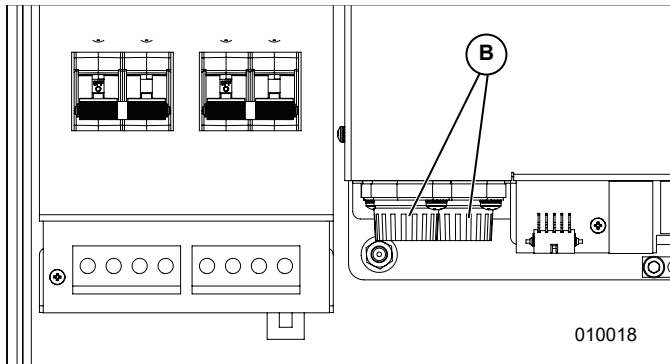

Figure 7-2. Removing Wiring Compartment Cover
5. See Figure 7-2. Locate DC fuse holders (B)